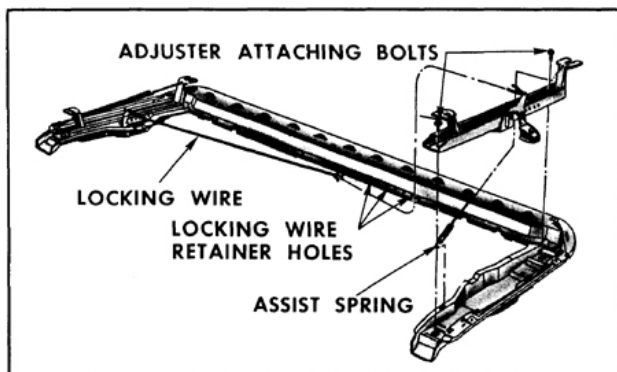

Fig. 16-380 Manual Seat Adjuster
2. Remove seat adjuster assist spring from adjuster to be removed. (Fig. 16-380)
3. If left adjuster is being replaced, remove adjuster control knob. (Fig. 16-380)
5. Remove adjuster-to-seat bottom frame front and rear attaching bolts and remove seat adjuster from seat assembly. (Fig. 16-380)